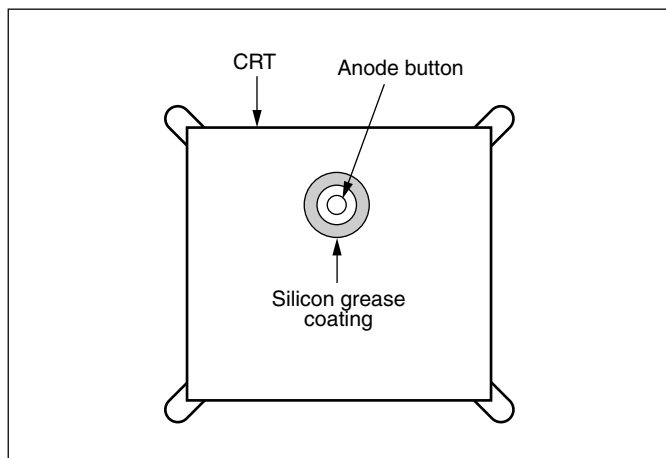
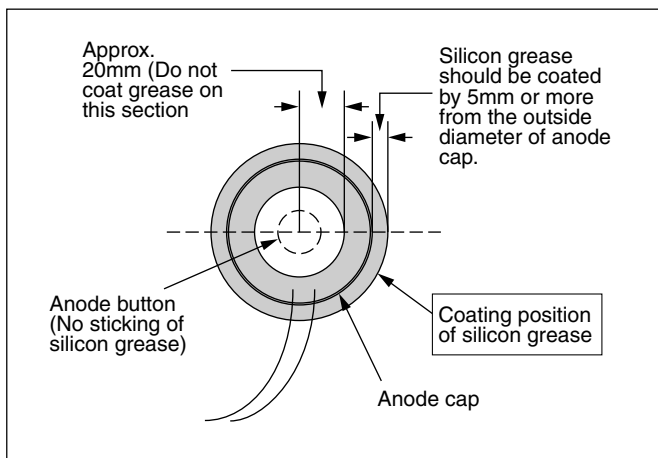

Fig. 5
Fig. 6
- Subsequent to replacement of the CRT and HV transformer or repair of the anode cap, etc. by dismantling them, be sure to coat silicon grease for electrical insulation as shown in Fig. 5. Wipe around the anode button with clean and dry cloth. (Fig. 5) Coat silicon grease on the section around the anode button. At this time, take care so that any silicon greases dose not sticks to the anode button. (Fig. 6)